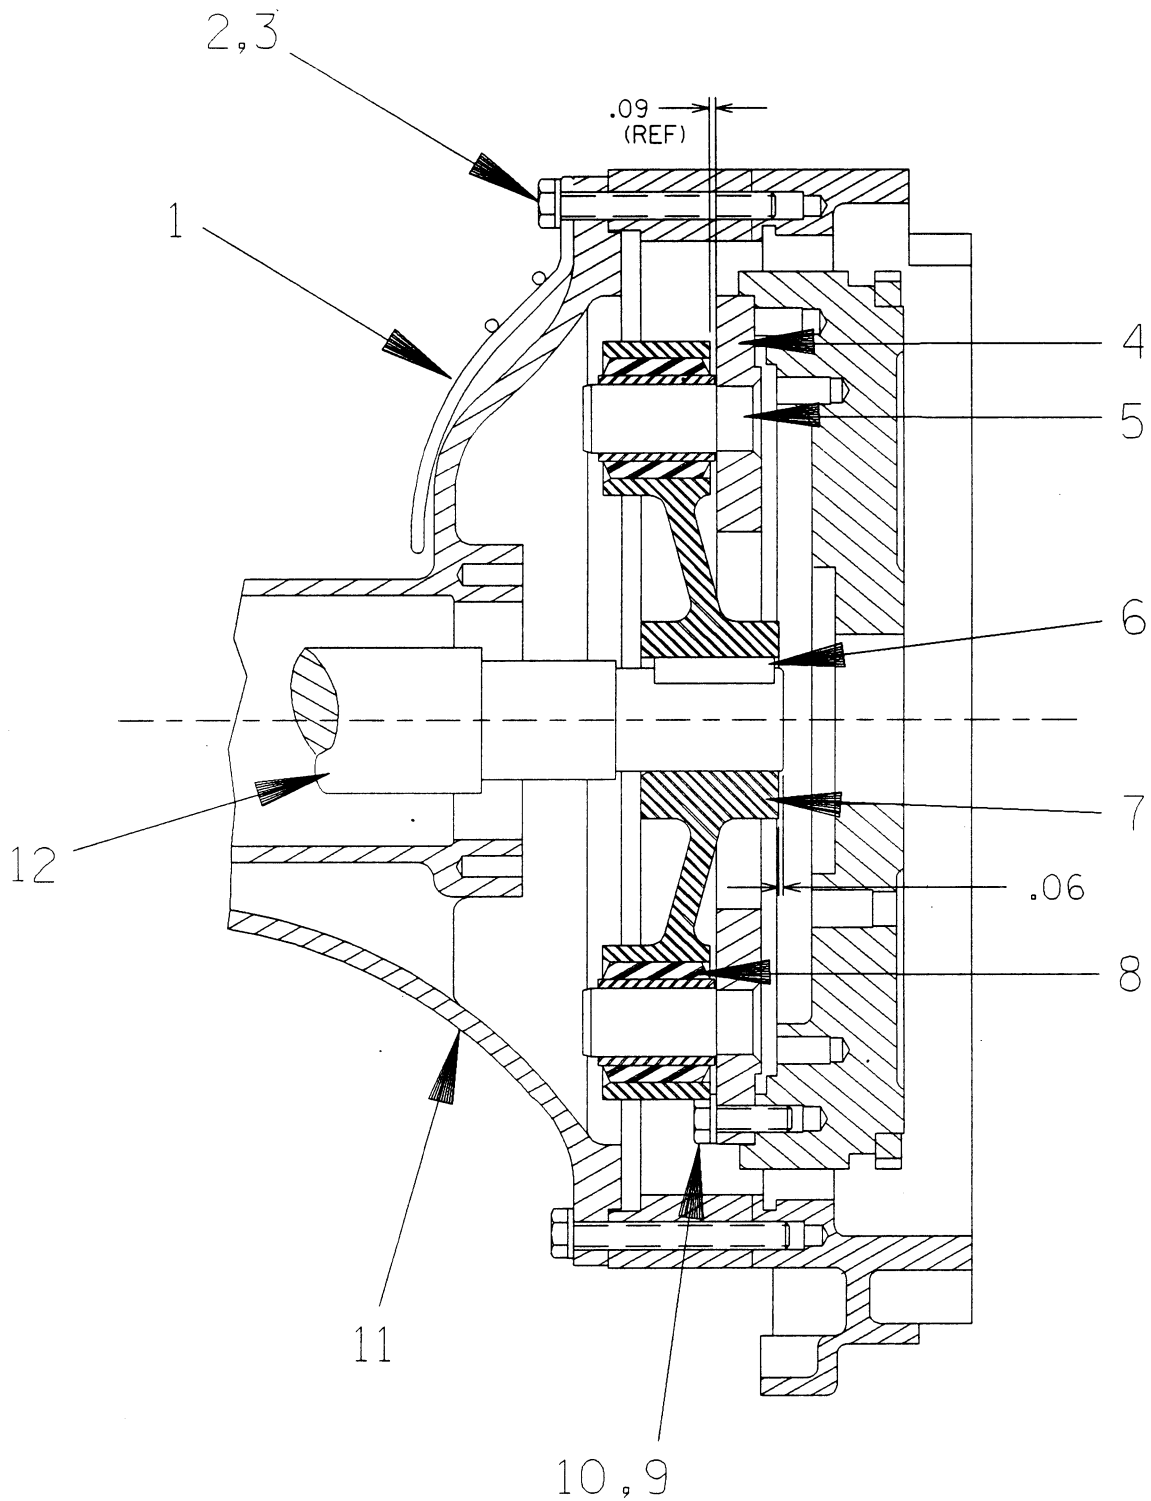

Figure 3. Drive Assembly For 14C2-F3L 1011
Disconnect the suction and discharge piping. Remove the hardware (44, 45, 46 and 47) securing the casing to the base (23). See Figure 3, and remove the hardware (2 and 3) securing the intermediate (11) to the engine bellhousing.
(Figure 3)